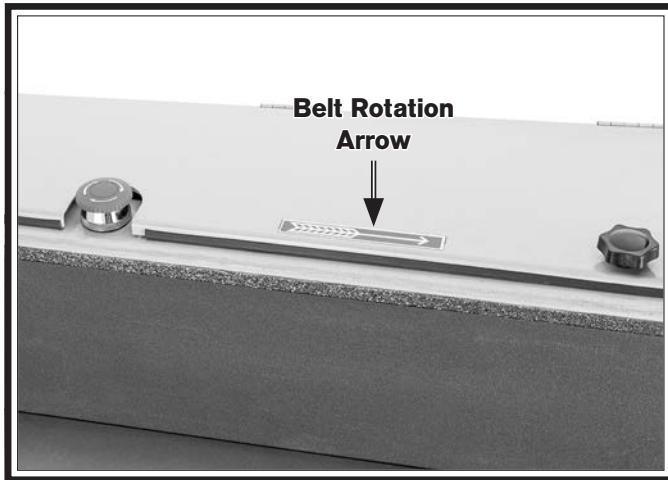

Figure 20. Sanding belt rotation arrow.
- Install and center sanding belt around sanding drums, being sure arrows on belt match arrows of belt rotation on machine (see **Figure 20**).